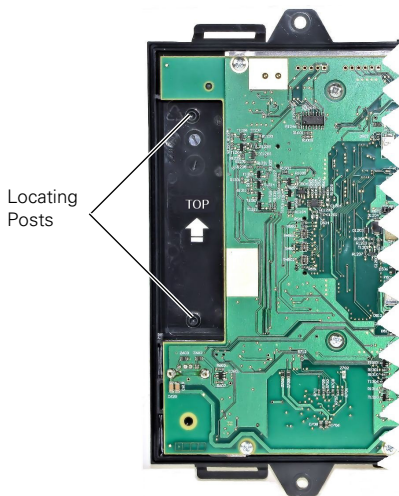

Fig. 8: Compact Network Repeater - Rear View of Front Cover
- 1 Inside the front cover of the repeater, identify the exposed edge of the flexible plastic 'insert' labelled as 'TOP', which is just behind the PCB. Refer to Fig. 8.